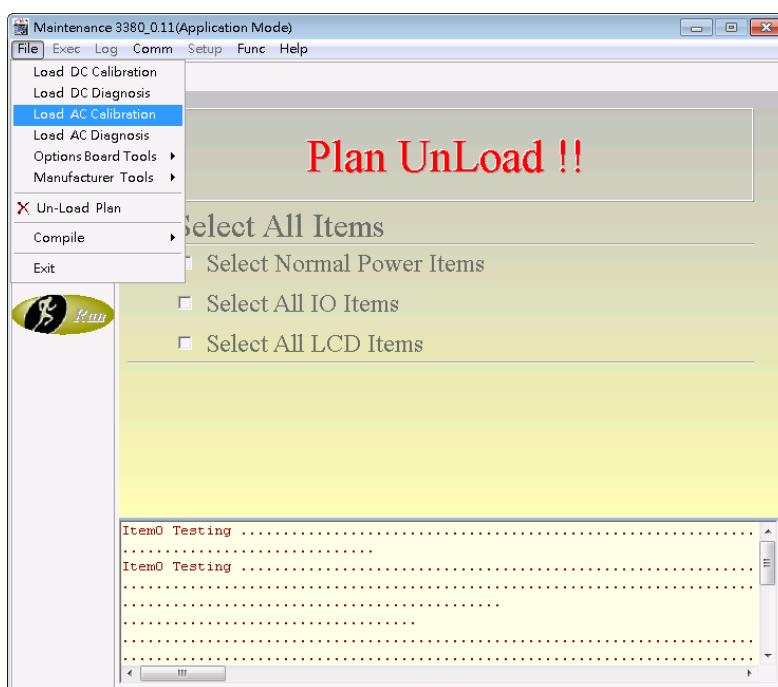
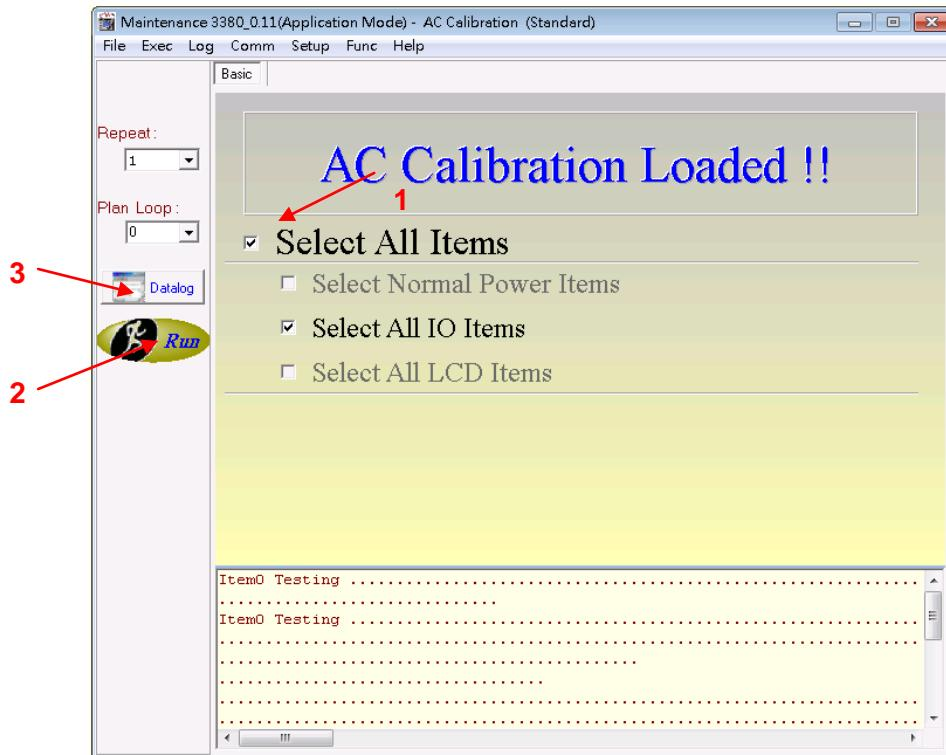

Figure 3-20 AC Calibration Window
Figure 3-21 AC Calibration Window
- (1) Click “Load AC Calibration” as *Figure 3-20* shown to activate the AC Calibration Maintenance window as *Figure 3-21* shown.